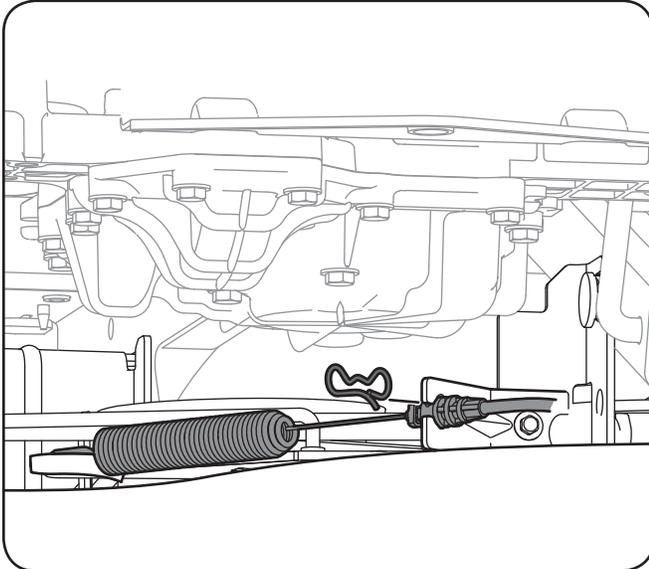

Figure 7-2
- Remove the bow pin that secures the PTO cable to the bracket on the deck, slide the PTO cable out of the bracket and unhook the spring from the idler bracket. See Figure 7-2.